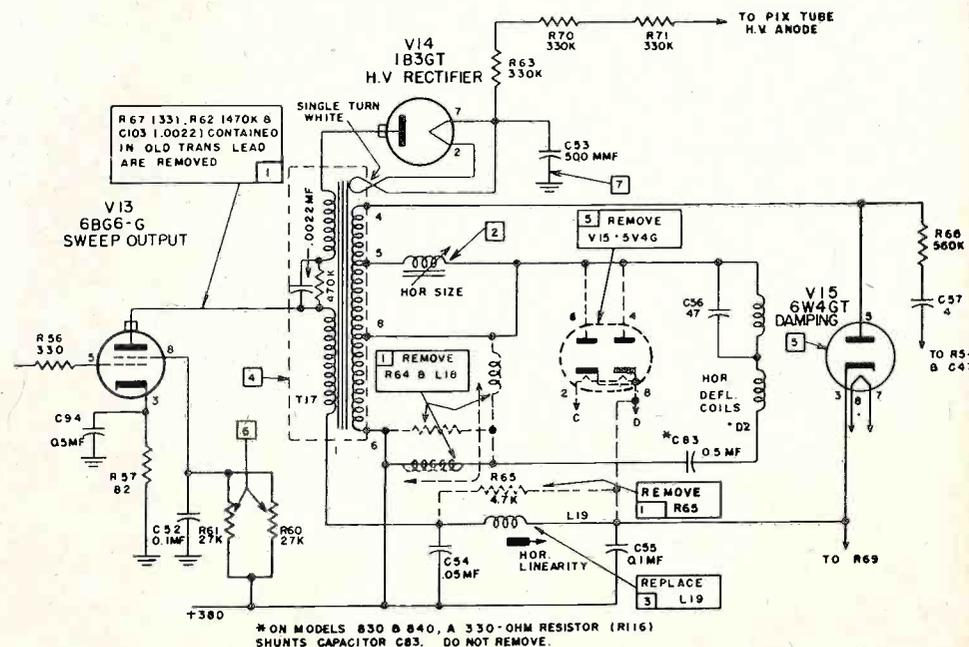

Fig. 2. The seven steps required to change the circuit of General Electric Models 814, 820, 830, and 840, for the use of transformer RTO-071.
Fig. 2 shows the seven steps required to change the circuit for the use of the substitute transformer. The procedure is as follows:
4. Mount new sweep output transformer (Stock No. RTO-071) in place. See sketch for lead identity so as to effect most satisfactory placement of transformer. Wire the new transformer to the circuit according to the diagram, Fig. 2.
7. Reconnect the h-v capacitor, C53, so that the connection from the stand-off which was disconnected in Step 1, reconnects to chassis ground as shown in Fig. 2.